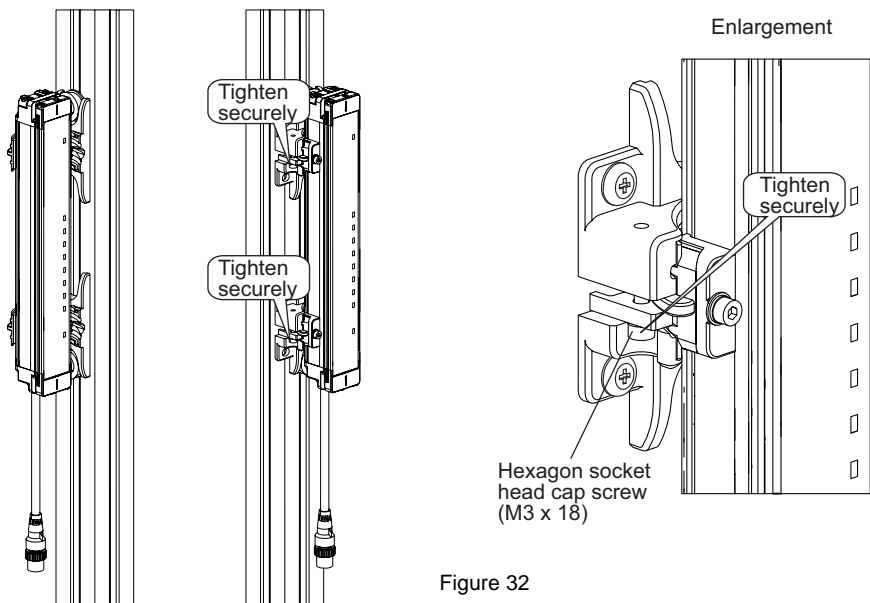

Figure 32
7. Tighten two hexagon socket head cap screws (M3 x 18) on Intermediate Bracket (3) to prevent rotation. (Figure 32) Tighten the hexagon socket head cap screws (M3 x 18) with the torque at 0.54 N•m (recommended).